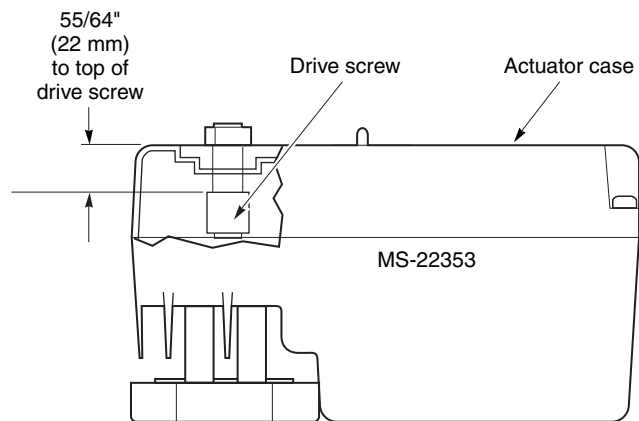

Figure-9 Position Drive Screw Before Mounting Actuator.
12. Confirm that the drive screw is at the required distance from the top of the actuator case. See Figure-9. If the drive screw is not in position, insert a tapered pencil or pen into the drive screw and rotate.